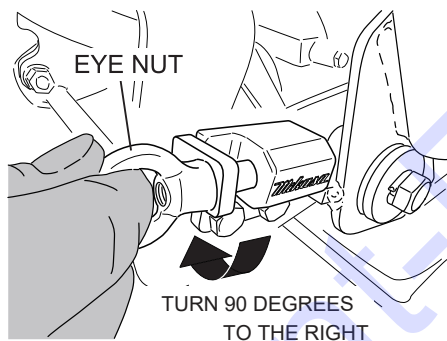

Figure 8. Handle Stopper Eye Nut
2. Move the handle to operating position, then turn the eye nut of handle stopper, 90 degrees to the right (Figure 8).